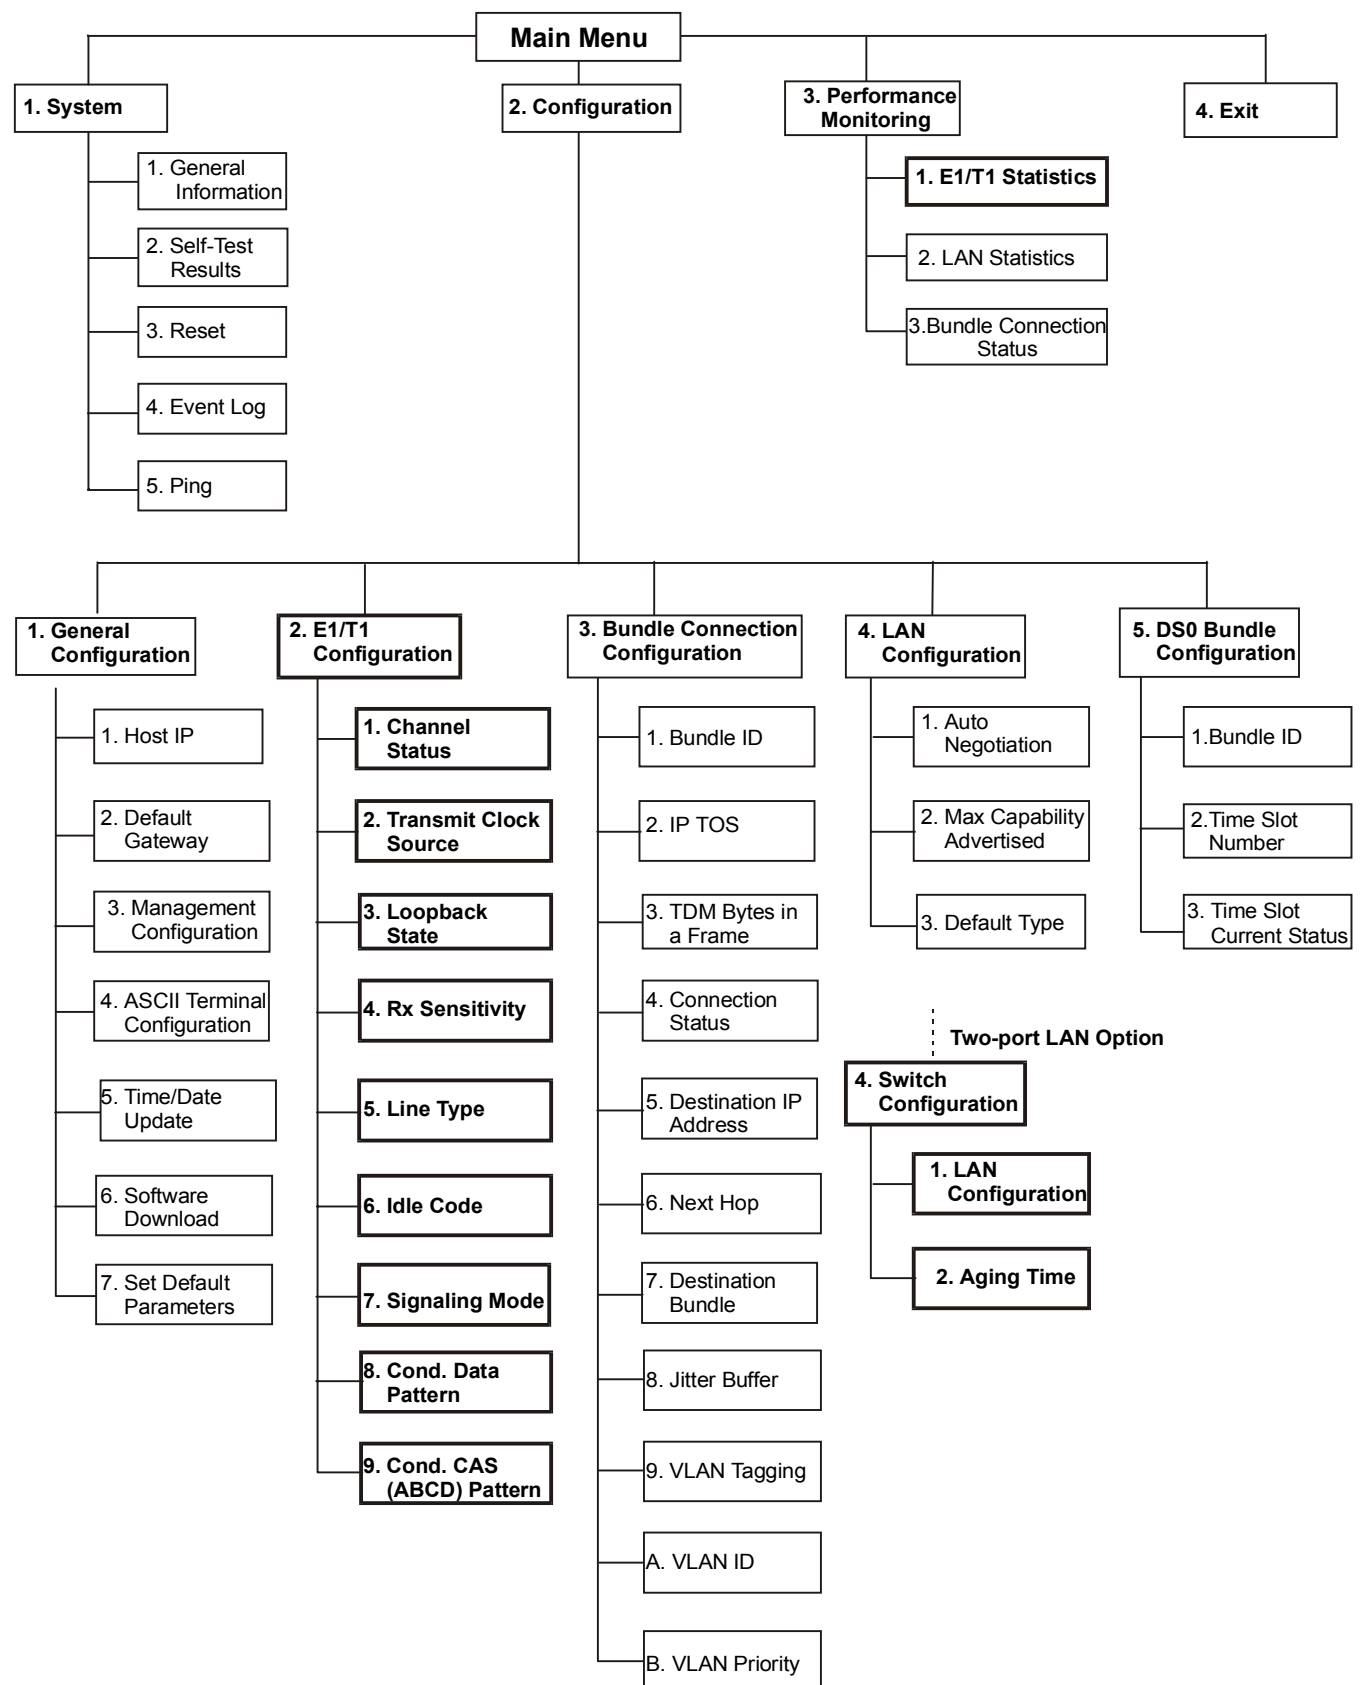
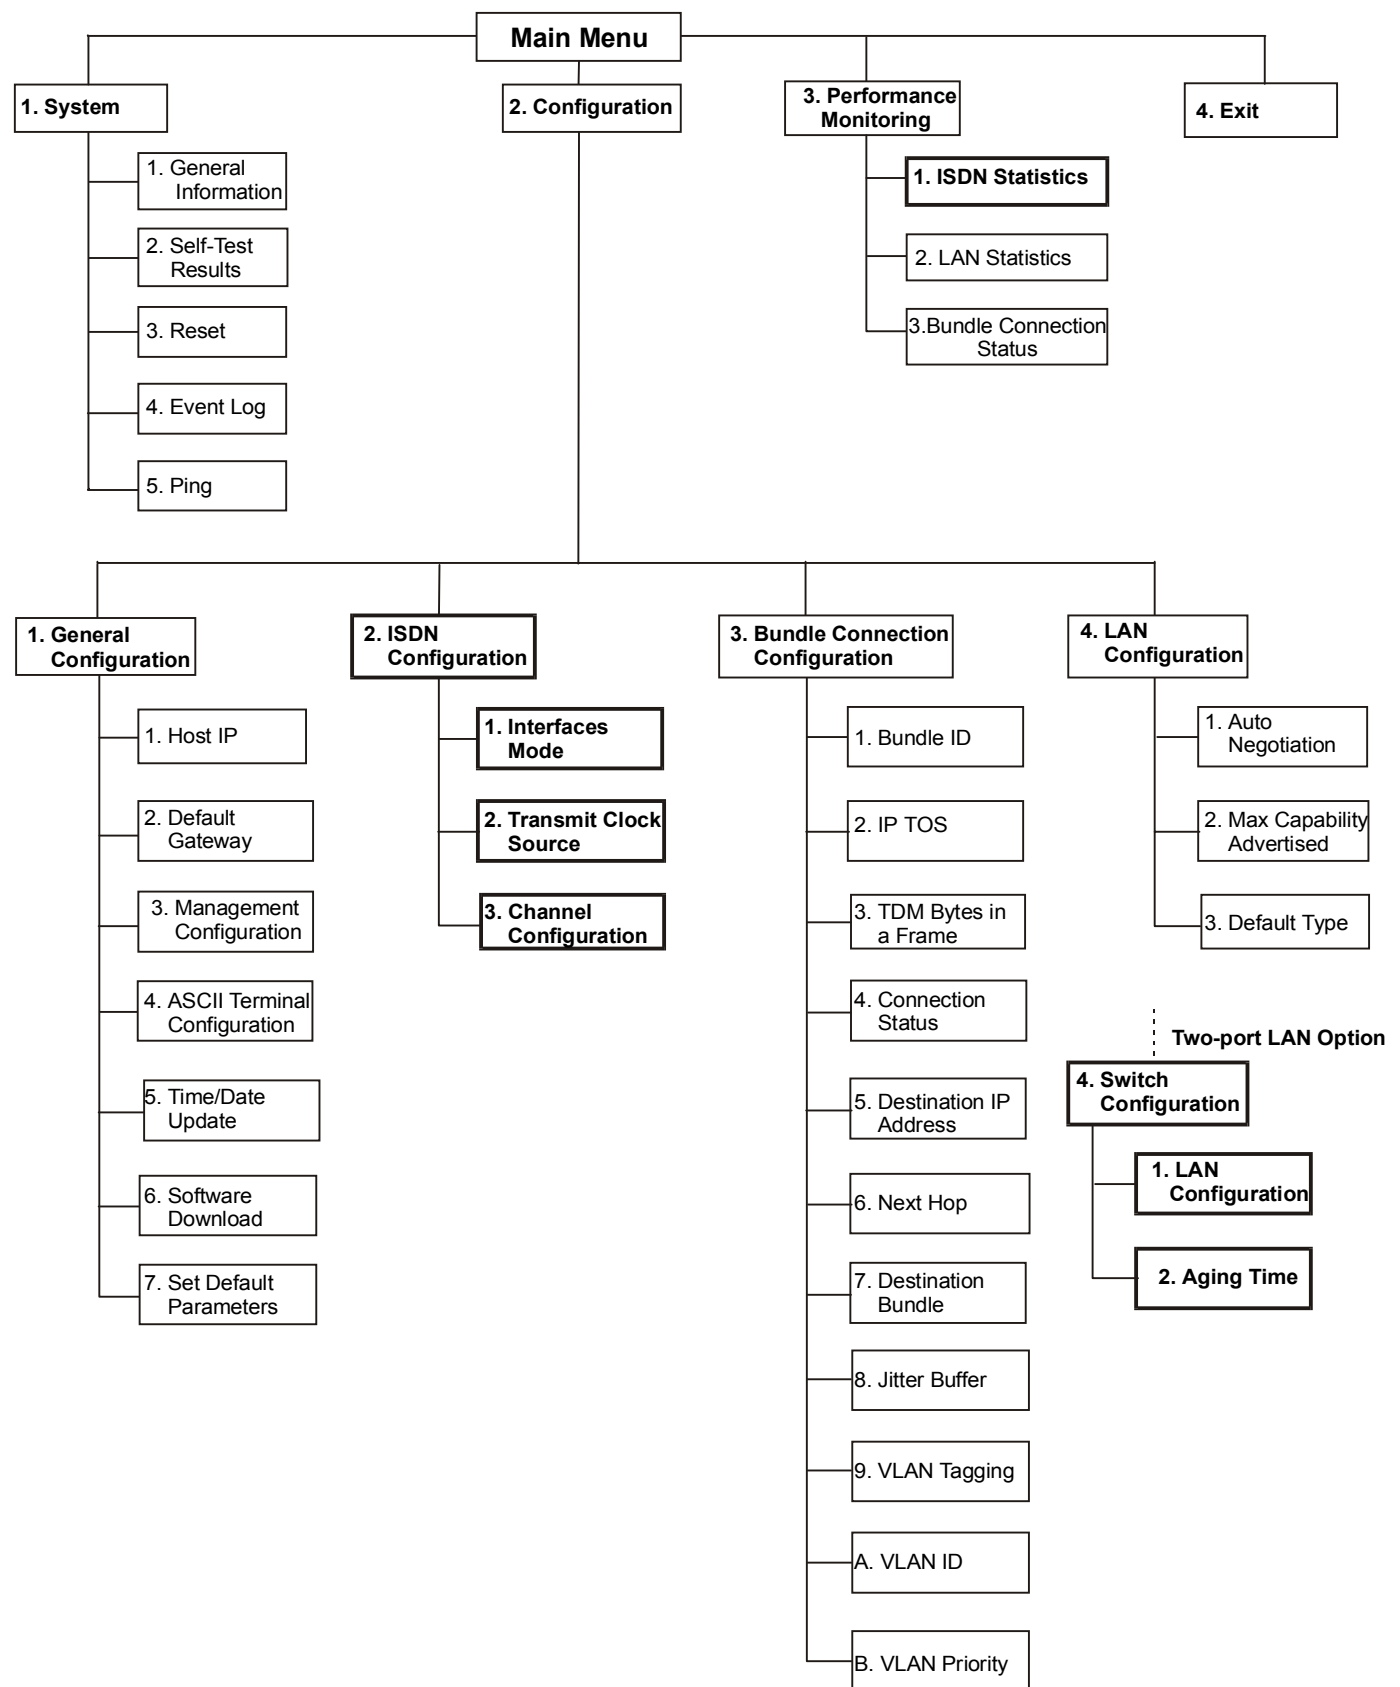
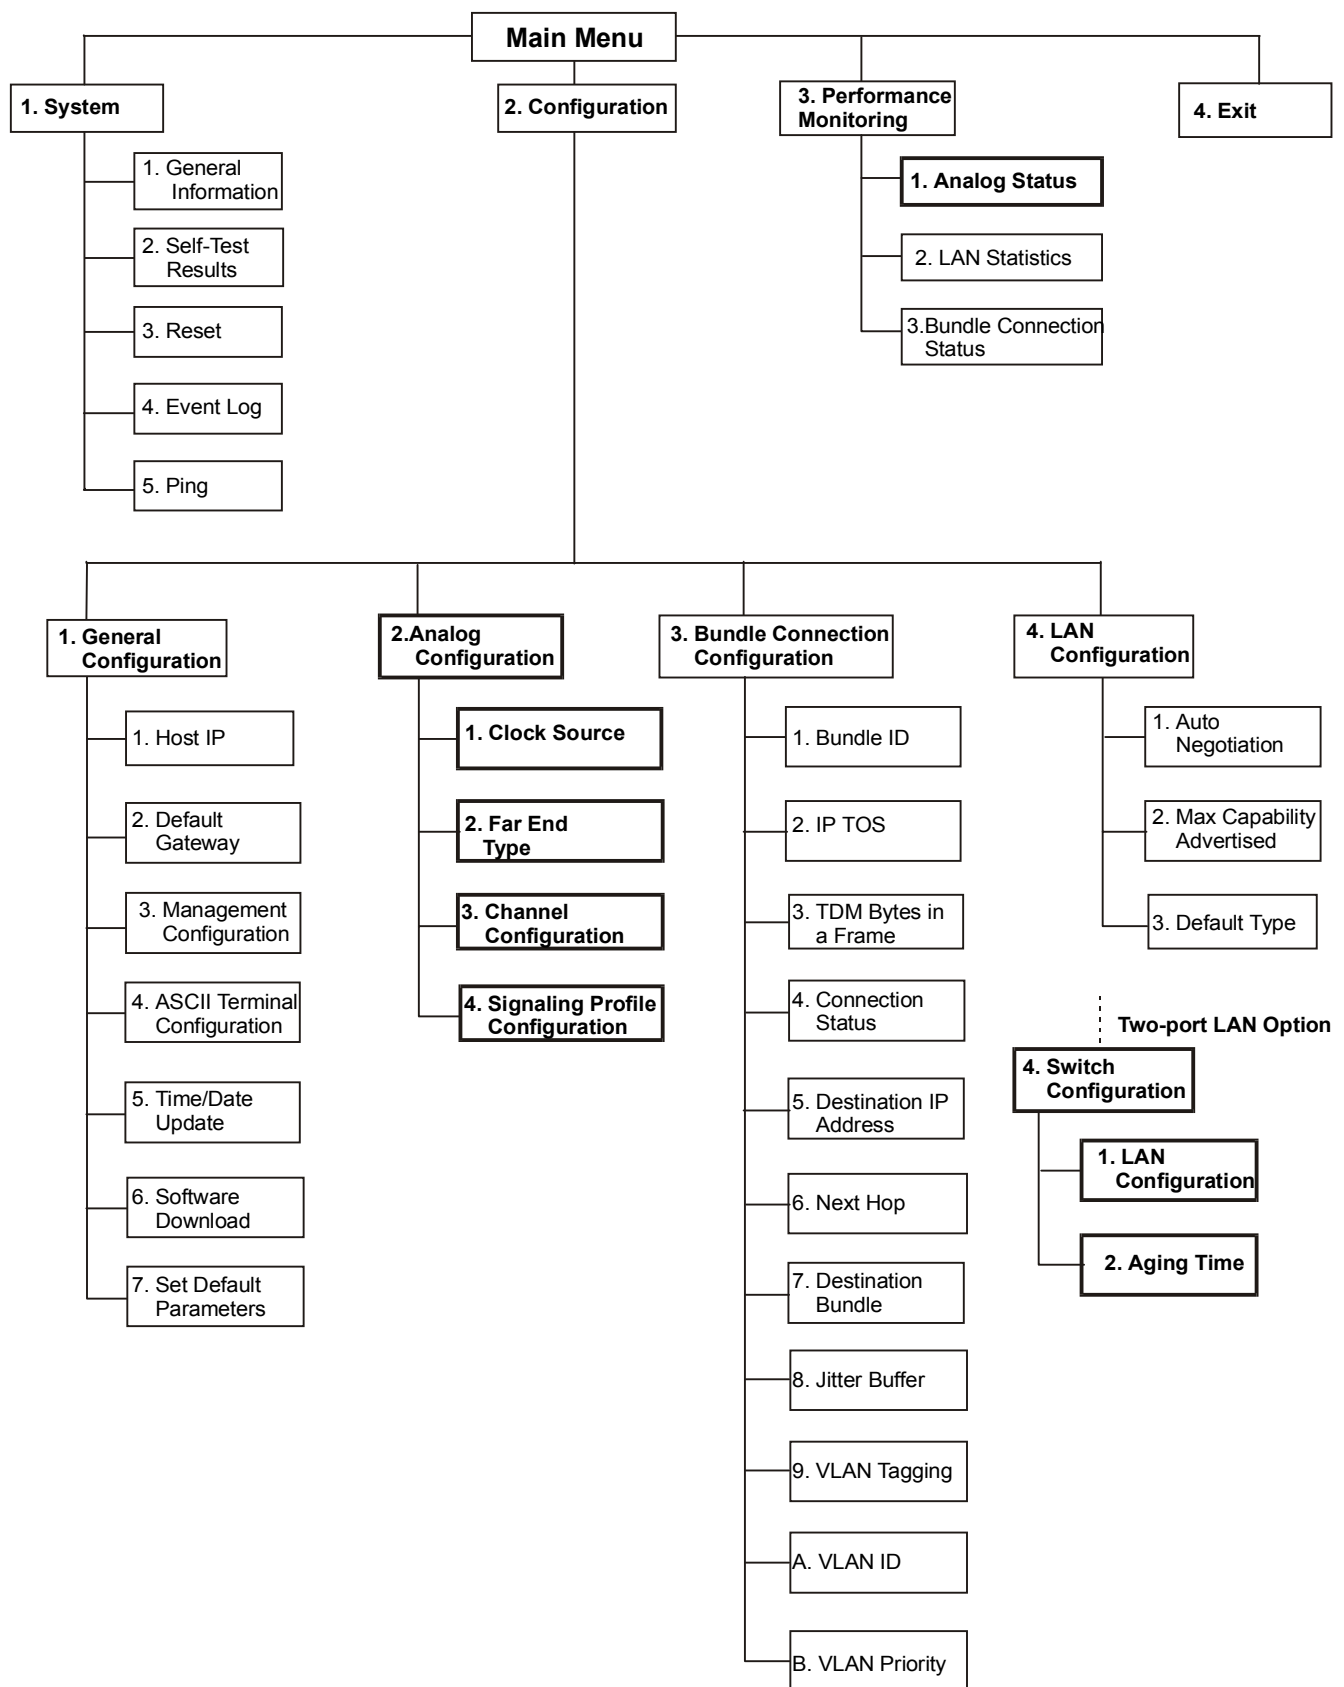

Figure 3-5. IPmux-1 (E1/T1) Terminal Menu Tree
Figure 3-6. IPmux-1E ISDN-S Terminal Menu Tree
Figure 3-7. IPmux-1E FXS Terminal Menu Tree
The following functions are supported (see menu trees in *Figure 3-5*, *Figure 3-6*, and *Figure 3-7*):
- *Figure 3-5* maps the IPmux-1 terminal menus
- *Figure 3-6* maps the IPmux-1E ISDN-S terminal menus
- *Figure 3-7* maps the IPmux-1E FXS terminal menus.